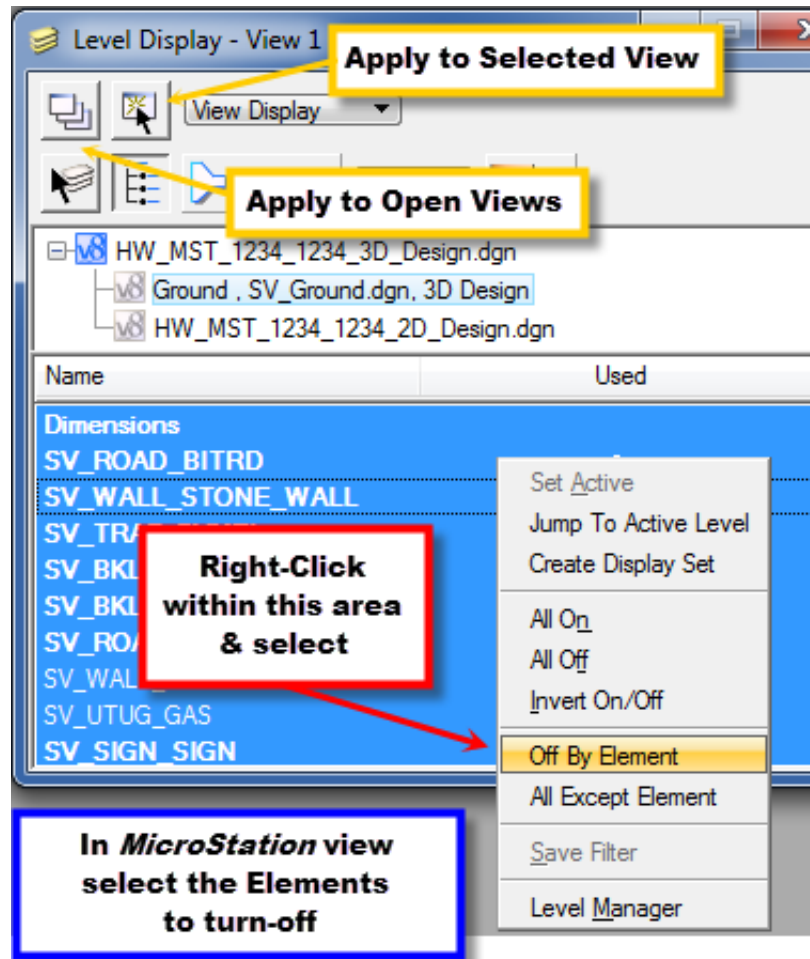

Figure 17 - Level Display Box
13. Select **Level Display**  and turn off desired levels in the reference file and **close** the Level Display box (Figure 17).
11. Select **Level Display**  and turn off levels in the reference file(s) as needed. Close the Level Display box, Figure 17.